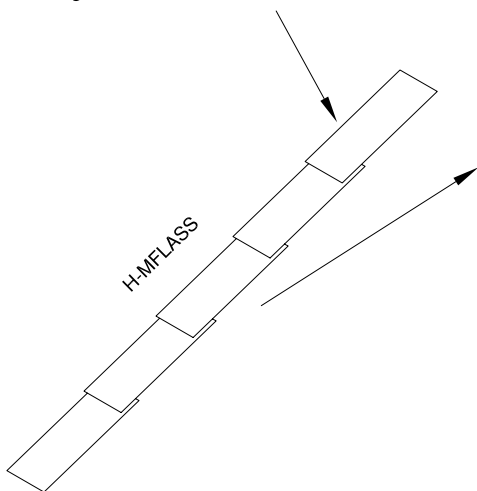

FIGURE S19
Using 3" screws affix the roof rafters to the top plates of the front and back walls. See Figure S19 below for nailing details.
- When complete, take the Metal Flashing Shingles and slide them one by one between the rows of Cedar Shingles along the Roof Panels Joints (FIGURE S19)